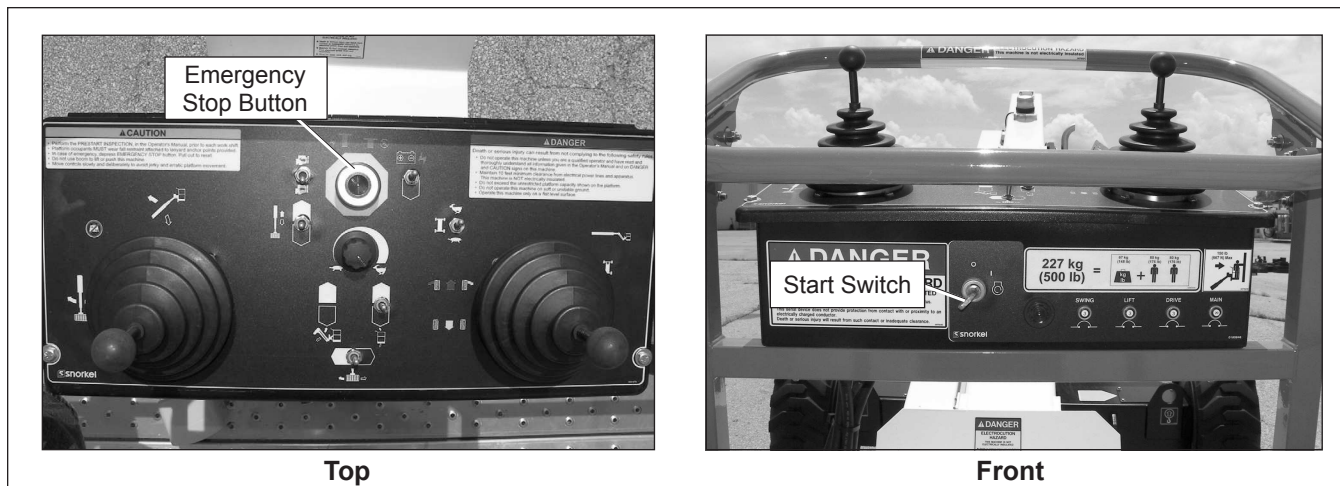

Figure 8.4 – Upper Controls
6. Pull the emergency stop outward (refer to Figure 8.4).